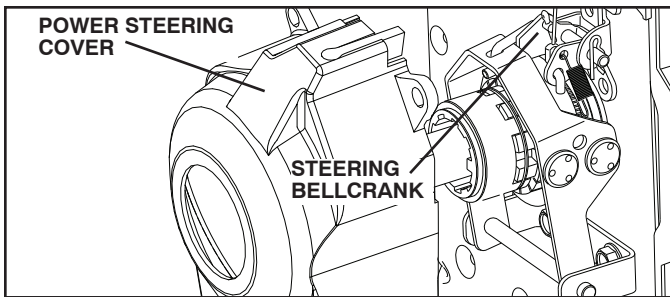

FIG. 31
3. Remove the plastic power steering cover. (See Fig.31)